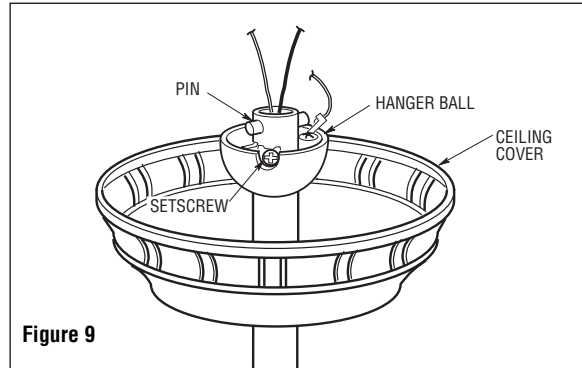

Figure 9
12. Reinstall the hanger ball (Figure 9) on the downrod as follows. Route the two 80" motor leads through the hanger ball. Position the pin through the two holes in the downrod and align the hanger ball so the pin is captured in the groove in the top of the hanger ball. Pull the hanger ball up tight against the pin and securely tighten the setscrew in the hanger ball. A loose setscrew could create fan wobble.